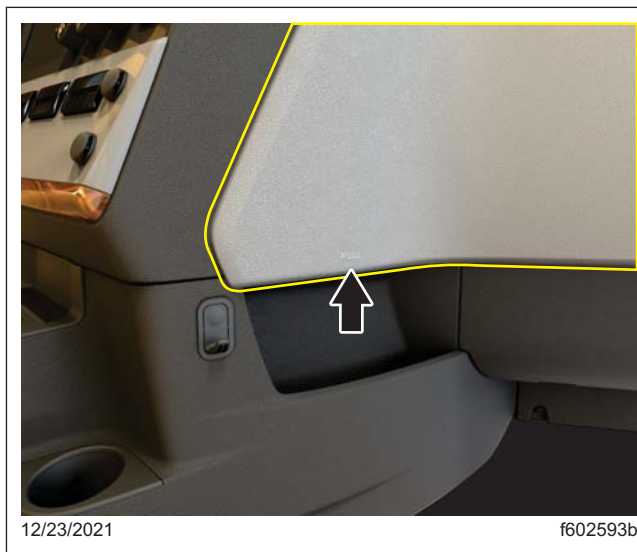

Fig. 3, Electrical Bay Cover Handhold
5. Remove the electrical bay cover using the handhold at the lower left of the cover as shown in Fig. 3.